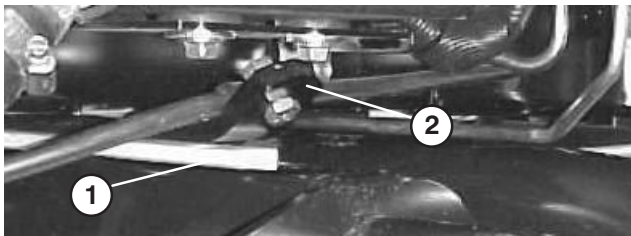
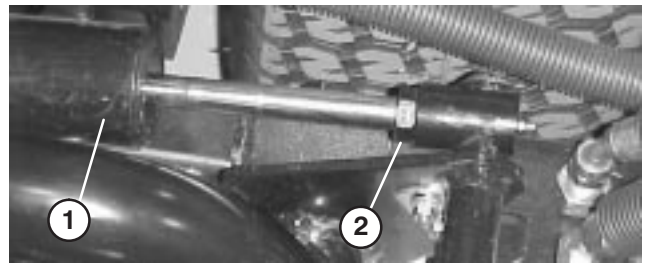

Figure 13
Figure 14
3. Start engine, raise decks and check to make sure clearance between wear strap on top of rear cutting unit wear bar and bumper strap is .020" – .100" (Fig. 13). If clearance is not in this range, adjust rear cylinder to attain clearance. To adjust cylinder, lower the cutting units and back off the jam nut on the cylinder (Fig. 14). Grasp cylinder rod close to the nut with a pliers and rag and rotate the rod. Raise the cutting units and check clearance. Repeat procedure if required. Tighten clevis jam nut.